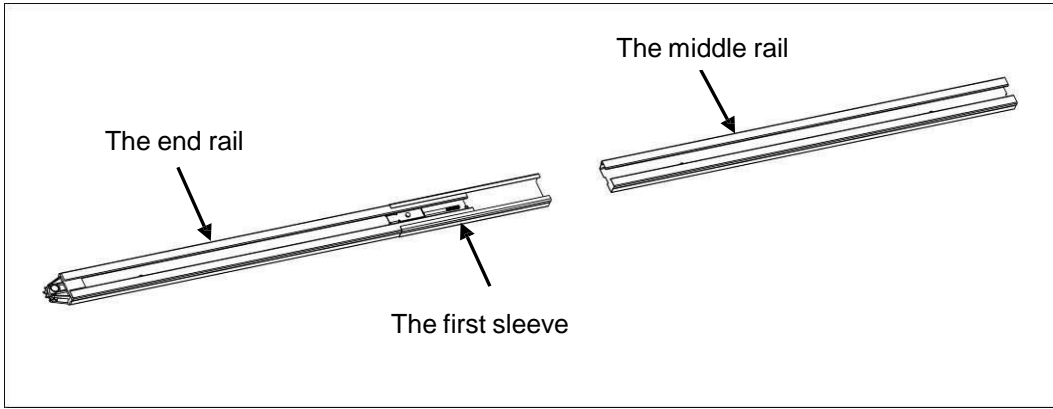

Fig. 7
1. As per Fig.7, slide the end rail into the 1st sleeve & slide the middle rail into the 1st sleeve.